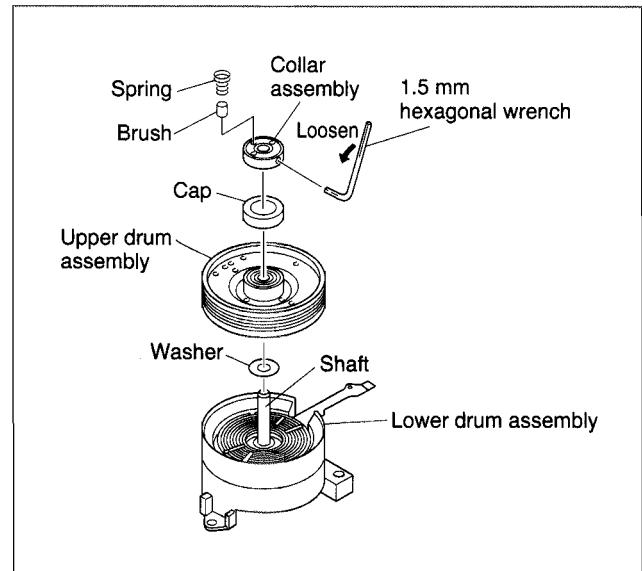

Fig. 2-2-44
- (2) Install a new washer and upper drum assembly on the drum shaft. (See Fig.2-2-44.)